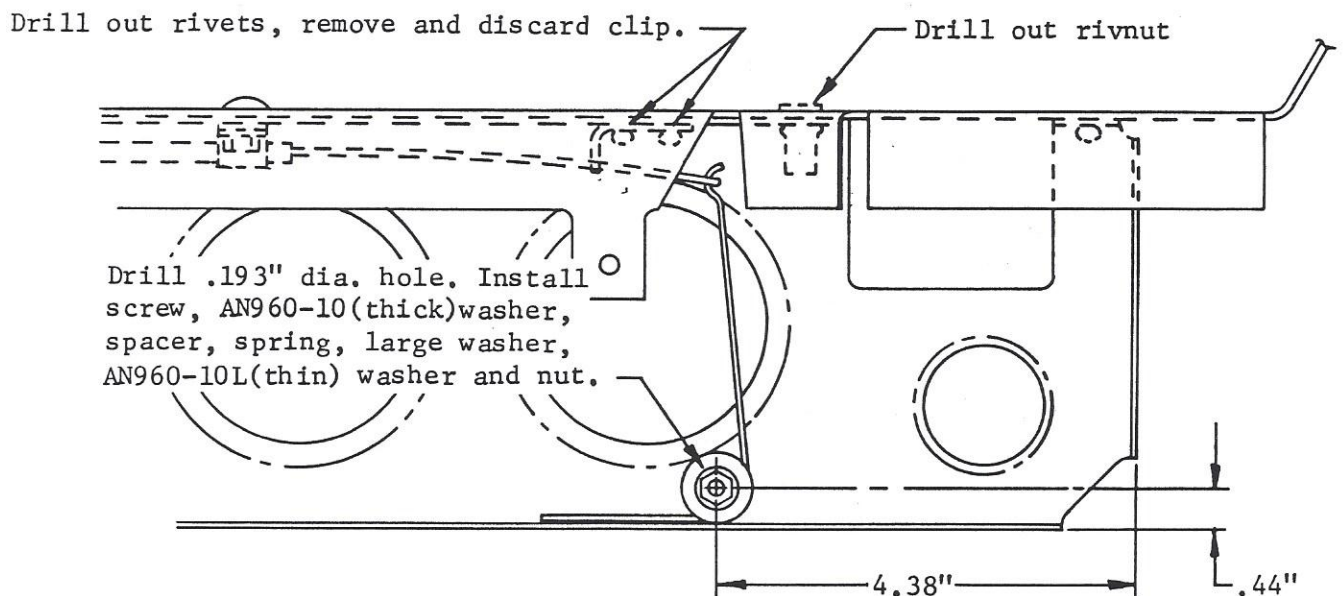

Figure 1. Flap Position Indicator Modification.
6. Drill a .193 diameter hole through the console support to mount the spring. Locate as shown in Figure 1.